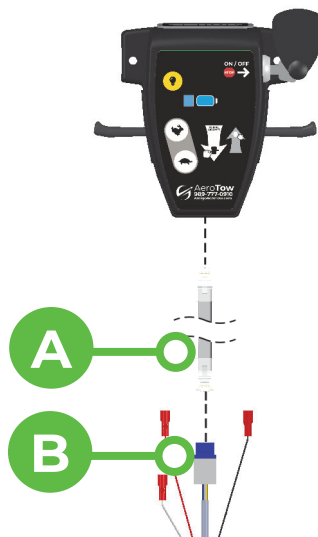

Figure 4
2. Unclip the MPC cable from the wire clip in the box, then unplug the wire connector (A) from the blue housing (B) (Figure 4).